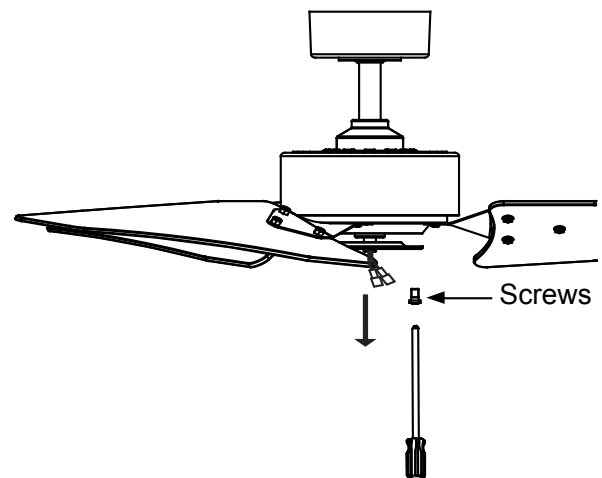

Fig. 18
Step 1. Remove one screw from the bracket below fan motor assembly and loosen but do not remove the other two screws. (Fig. 18)